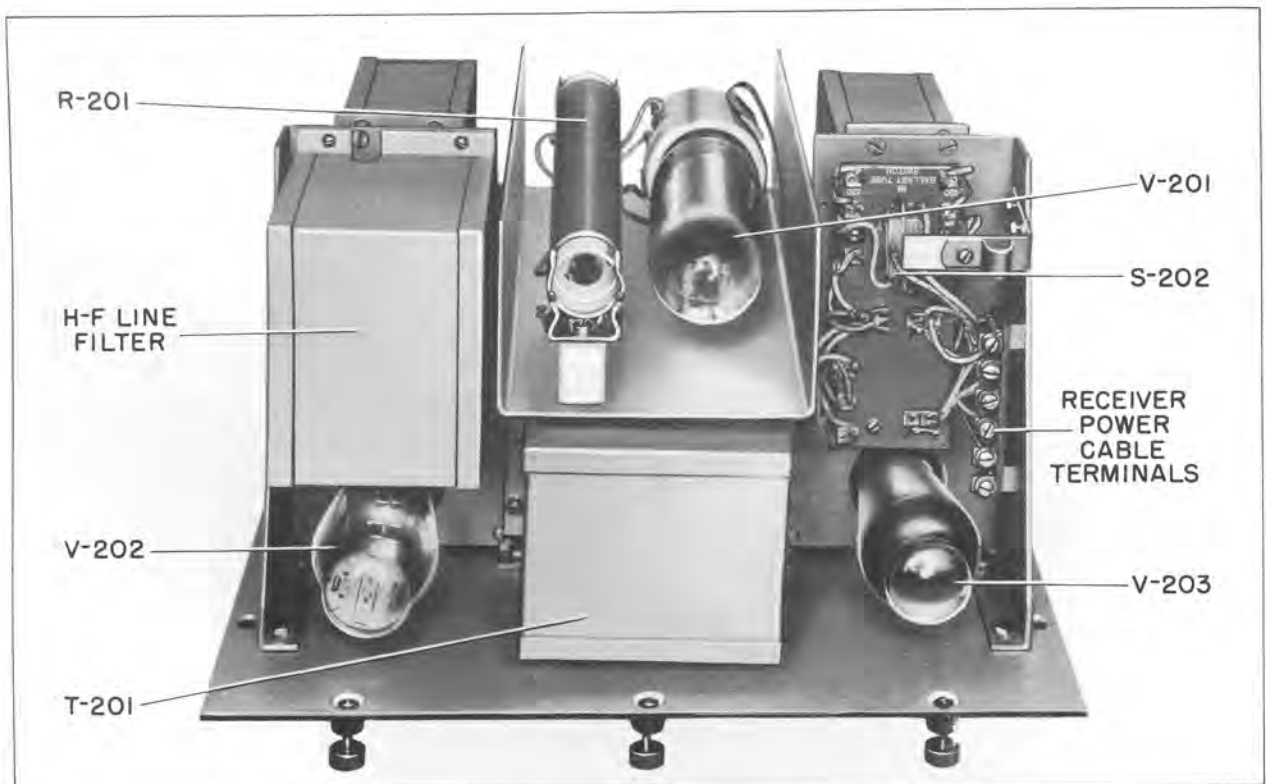

Figure 1—Power Unit CMX-20131-A (Top View of Chassis)
6.4-1 The wiring between units is shown in Figure 16. At installation, the supply voltage should be measured or otherwise ascertained and the primary taps of the power transformer (T-201) shifted if necessary to comply with the nominal line rating. These taps are connected at the factory for 115 volts as indicated by the marking "115" adjacent to the terminals to which the *red* wires from toggle switch S-202 is connected (see Figures 1, 4 and 21). If the supply voltage is nearer 110 or 120 volts than 115 volts, shift these *red* wires to one of the two other pairs of terminals (marked "110" and "120," respectively) as required. To eliminate as much a-c hum and other electrical interference as possible, the 110-, 115-, or 120-volt, a-c supply should be connected to the power unit by a shielded twisted pair of wires (No. 14 or larger), or run in grounded conduit as far as the bulkhead adjacent to the power unit and terminated in a junction box. In no case should transformers or other a-c equipment be located in close proximity to the receiver.
- 7.1-1 The tube locations are shown in Figures 1 and 16.
8.3-1 The power unit is designed for mounting underneath a table (see Figure 15). The cabinet may be permanently mounted, the chassis being removable for access to tubes, for servicing, and for cable connections. All components are mounted on the chassis or panel forming a single assembly (see Figures 1, 4, and 7). On the top of the chassis from left to right are located the rectifier tube, h-f line filter shield, power transformer, voltage regulator tube, resistor board and power terminals. The line filter shield at the left rear is removable for access to the line input terminals and fuses. In the center at the rear is located the current-regulator tube. Beneath the chassis from left to right are located the l-f line filter, ripple filter reactors, and ripple filter capacitor pack.
- 9.5-6 In order to make this power unit interchangeable with the one used in the RAK Series equipment, provision is made for the elimination of the current-regulator tube (Type -876) from the circuit when the power unit is used with the RAK equipment. Since the latter receiver operates at relatively low frequencies, the additional freedom from effect of line voltage variation obtained from the current-regulator tube is not needed if the line regulation is within ± 10 per cent. In the interest of conserving primary supply current, its use with the RAK Series equipment is not recommended under normal circumstances and the tube should be removed from its socket. It must, however, be used with the RAL Series equipment. A switch, therefore, is provided inside the unit to permit operation with or without this tube. (See Figures 1 and 4.) This switch connects the current-regulator tube and switches the power transformer primary for operation in series with the current-regulator tube or directly connected to the line filter. (See paragraph 10.2-3.)